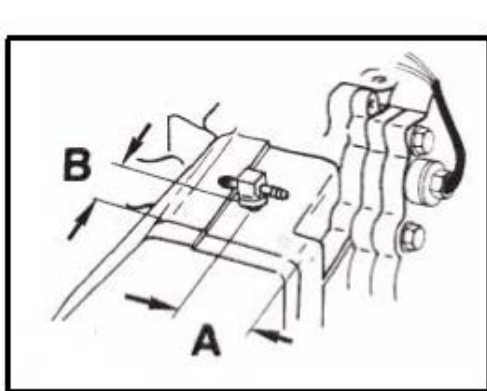

Fig. 1
3. Install a 1/8th inch NPT brass or aluminum pipe plug into the hole where the tee was located (use gel-seal on the threads). (See fig. 1)